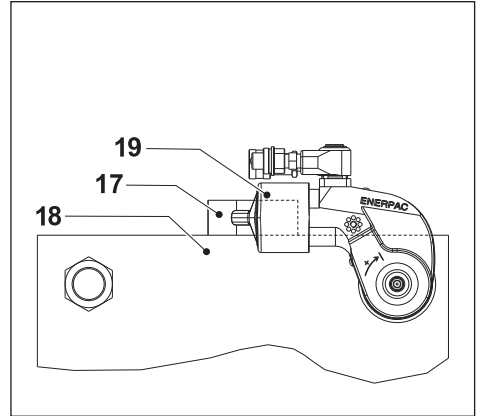

Fig. 10
4.3.2 Using an Extended Reaction Arm (Fig. 10)
- Position the foot (17) of the SRS Series extended reaction arm (19) against a suitable reaction point (18). The reaction point will counteract the force caused by operating the tool.